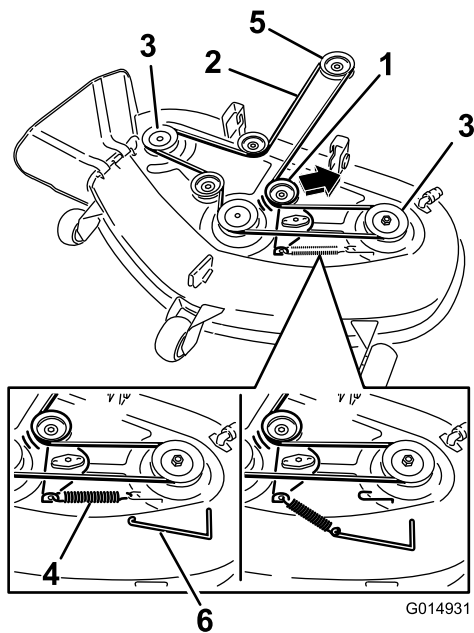

**Figure 72**
6. Using a spring-removal tool, (Toro Part No. 92-5771), remove the idler spring from the deck hook to remove tension on the idler pulley, and roll the belt off of the pulleys (Figure 72 and Figure 73).
8. Using a spring-removal tool, install the idler spring over the deck hook, and place tension on the idler pulley and mower belt (Figure 72 and Figure 73).